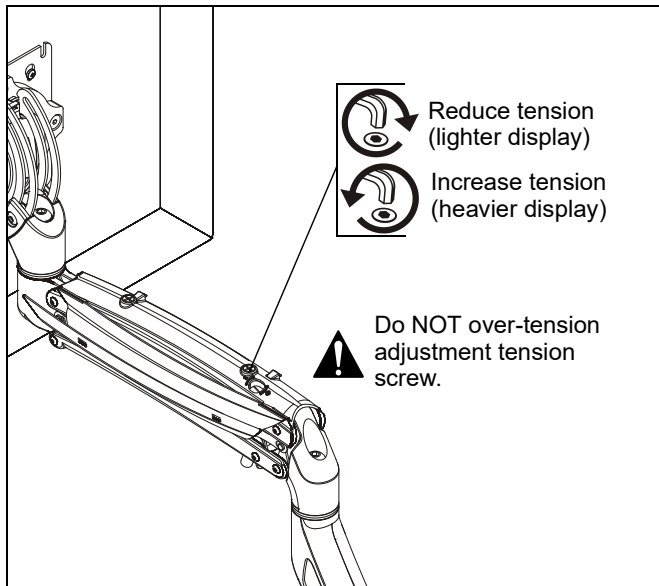

Figure 18
1. Tension may be adjusted with tension adjustment screw inside cable management cover and 1/8" hex key (L). Turn clockwise to reduce tension or counter-clockwise to increase tension. (See Figure 18)